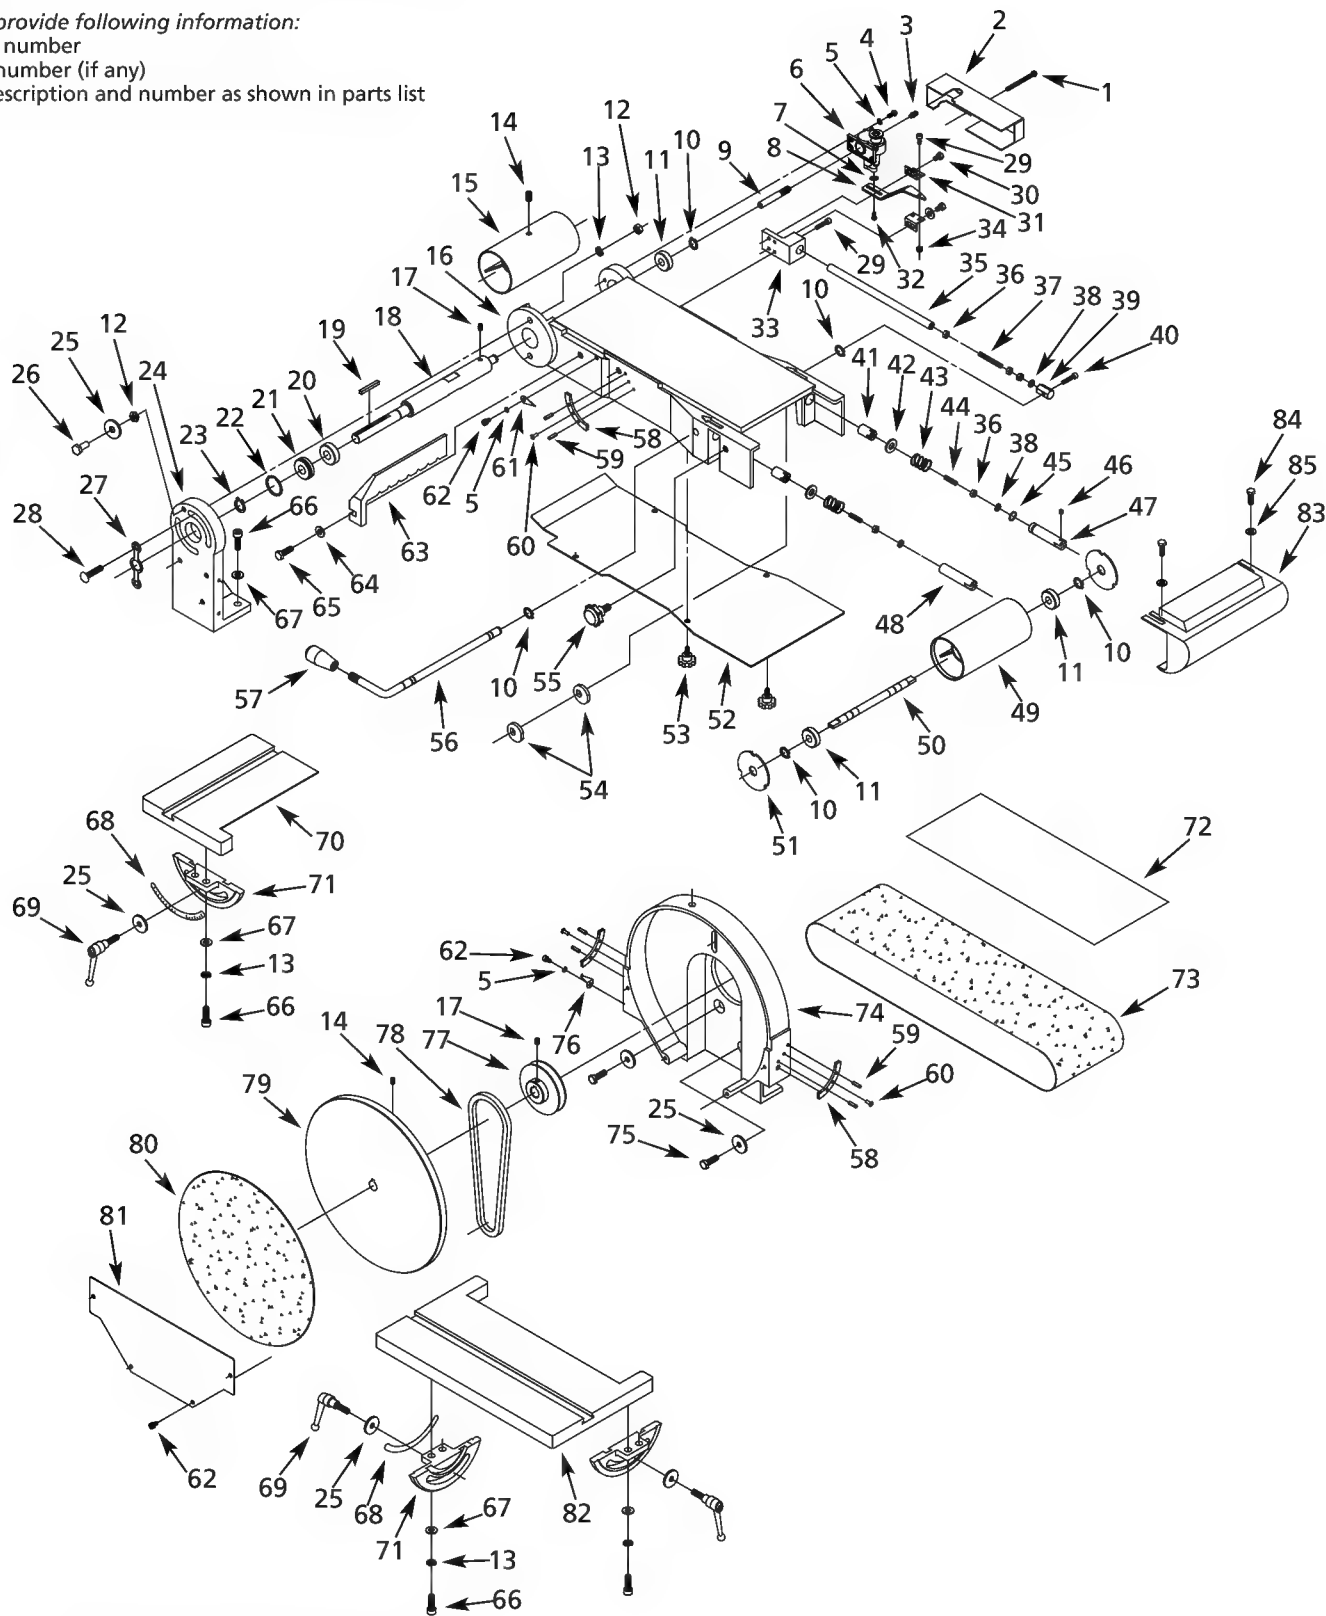

Figure 11 – Repair Parts Illustration for Sander
Refer to Figures 11 and 12.
1. Loosen and remove four bolts (Figure 11, Ref. No. 62) from disc cover plate (Figure 11, Ref. No. 81).
Refer to Figure 11.
2. Loosen and remove two handles (Figure 11, Ref. No. 69) from either side of the disc table (Figure 11, Ref. No. 82).
3. Slide out disc table from the disc guard (Figure 11, Ref. No. 74).
4. Loosen the set screw (Figure 11, Ref. No. 14) securing the aluminum disc (Figure 11, Ref. No. 79). Use the hole on the top of disc guard to locate and loosen set screw. Do not remove set screw.
5. Loosen and remove four bolts (Figure 11, Ref. No. 62) from disc cover plate (Figure 11, Ref. No. 81).
10. Turn knob (Figure 12, Ref. No. 32) on bracket (Figure 12, Ref. No. 46) to release tension on V-belt (Figure 11, Ref. No. 78).